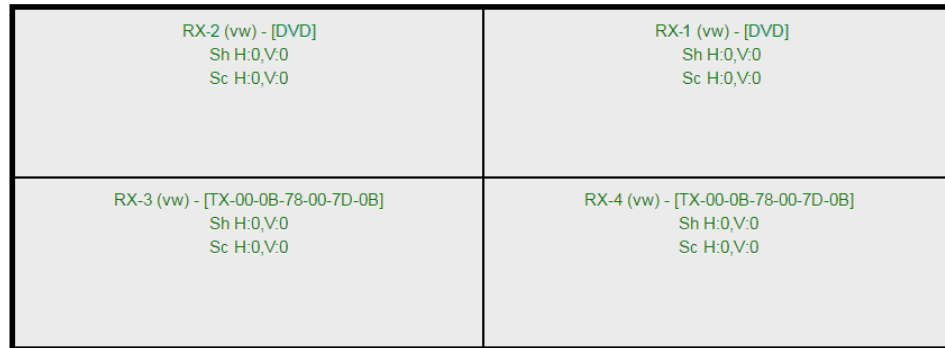

Figure 260: Video Wall Tab – Fully Source Mapped Video Wall
- The user maps some or all sources to all cells. The display pane then becomes fully source mapped (Figure 260).